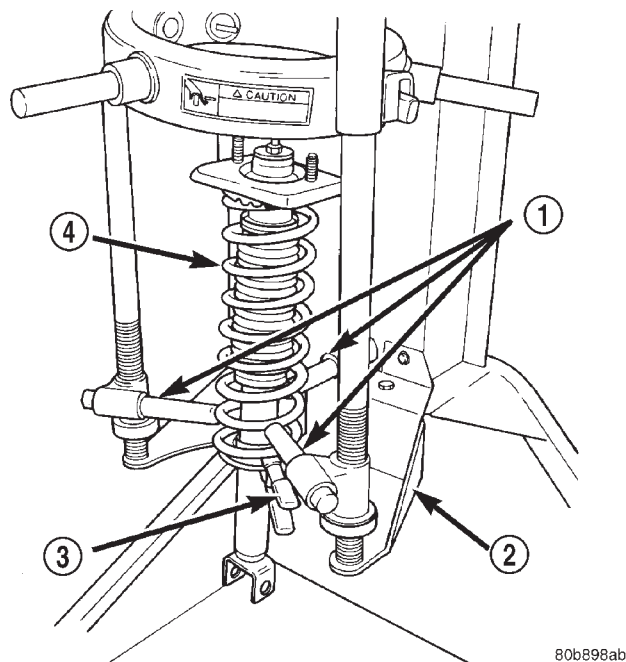
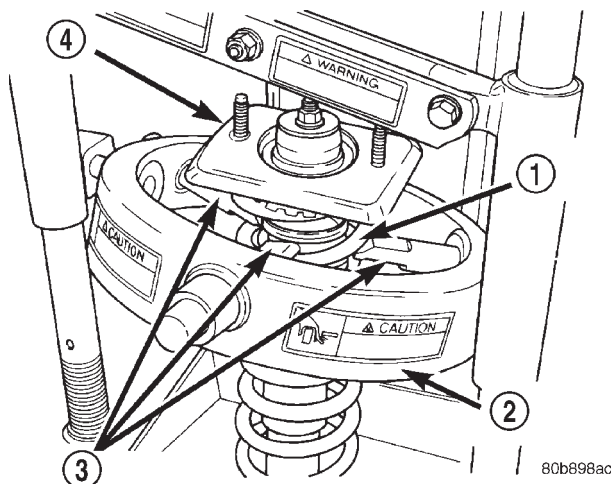

Fig. 43 Lower Hooks And Clamp
Fig. 44 Upper Hooks Positioned
(1) If both shocks are being serviced at the same time, mark the coil spring and shock assembly according to which side of the vehicle the shock was removed from, and which shock the coil spring was removed from.
(2) Position the shock assembly in the strut coil spring compressor following the manufacturer's instructions. Set the lower hooks and install the clamp on the lower end of the coil spring, so the shock is held in place once the shock shaft nut is removed (Fig. 43). Lower the upper hooks and position them on the coil spring near the top (Fig. 44).
(1) If the coil spring has been removed from the compressor, place the lower end (smaller diameter) of the coil spring in the spring compressor supported by the lower hooks at the same position as in disassembly (Fig. 43), following the manufacturer's instructions.
(2) Position the upper hooks of the spring compressor on the coil spring near the top as in disassembly (Fig. 44).
(3) Compress the coil spring enough to reinstall the shock absorber and upper mount.
end of the coil spring. Install the clamp temporarily securing the shock absorber to the coil spring (Fig. 44).
(13) Install the upper shock mount bracket and rod isolator bushings as an assembly on the top of the rod of the shock absorber (Fig. 44).
(16) Position the upper shock mount so its studs are in line with the bolt hole in the shock absorber lower bracket (Fig. 44).
(17) Slowly release the tension from the coil spring by backing off the compressor drive fully. As the tension is relieved, make sure the upper mount, isolator, and coil spring align properly. Remove the clamp from the lower end of the coil spring and shock. Push back the spring compressor upper and lower hooks, then remove the shock assembly from the spring compressor.